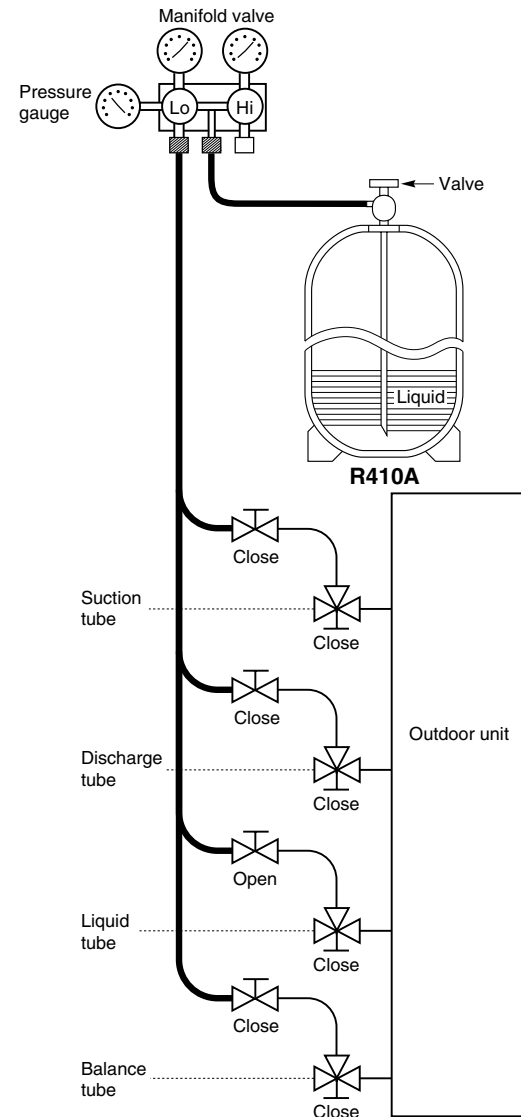

Fig. 7-5
- Charging additional refrigerant (calculated from the liquid tube length as shown in Section 1-8 “Additional Refrigerant Charge”) using the liquid tube service valve. (Fig. 7-5)